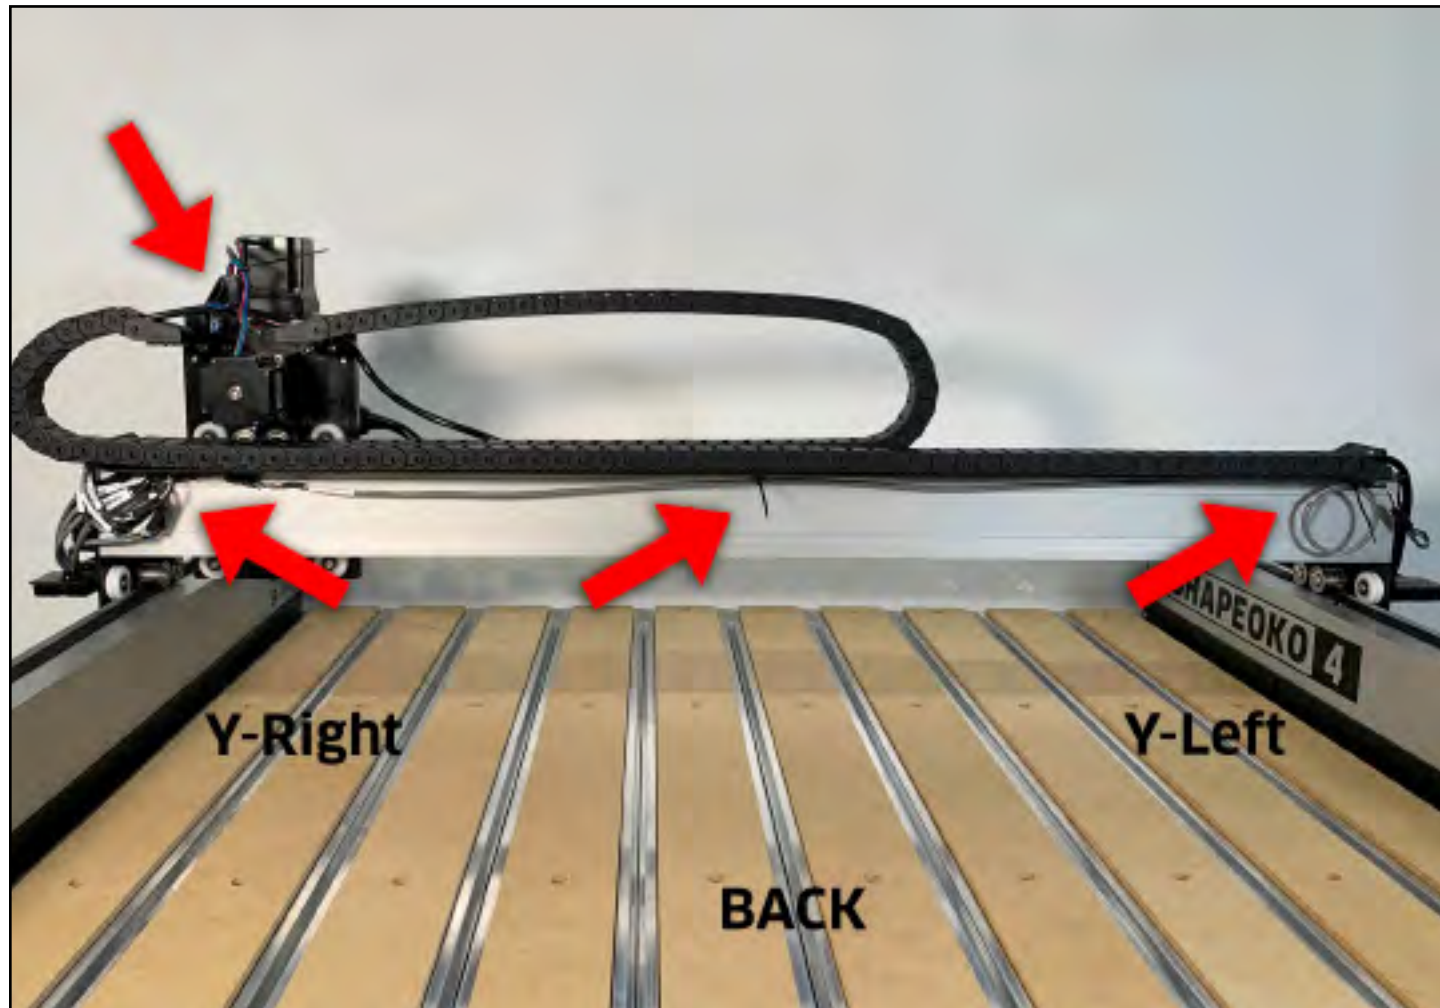

Figure 9-6
1. Connect the X- and Z-motor cables and the Z-proximity switch connectors at the back of the X/Z assembly. See **Fig. 9-6**.
2. Connect the X-, Y-Right, and Z-motor extension cables, and the X- and Z-proximity switches at the Y-Right gantry plate. See **Fig. 9-6**.
1. Use a few zip ties to secure loose cables (See **Figs. 9-6, 9-7, and 9-8**):